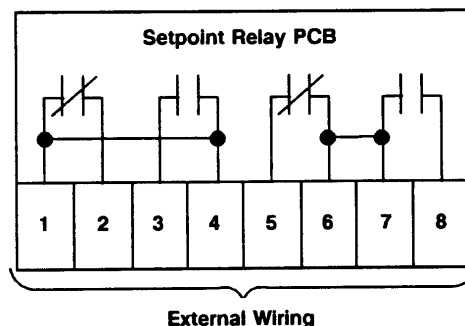

Figure 4-a: Setpoint External Wiring
7. Connect external wiring to setpoint PCB before mounting to 9321 PCB. Use wiring practices consistent with requirements of national and local electrical codes. Refer to the schematic on the next page (Figure 4-a) to aid correct termination.